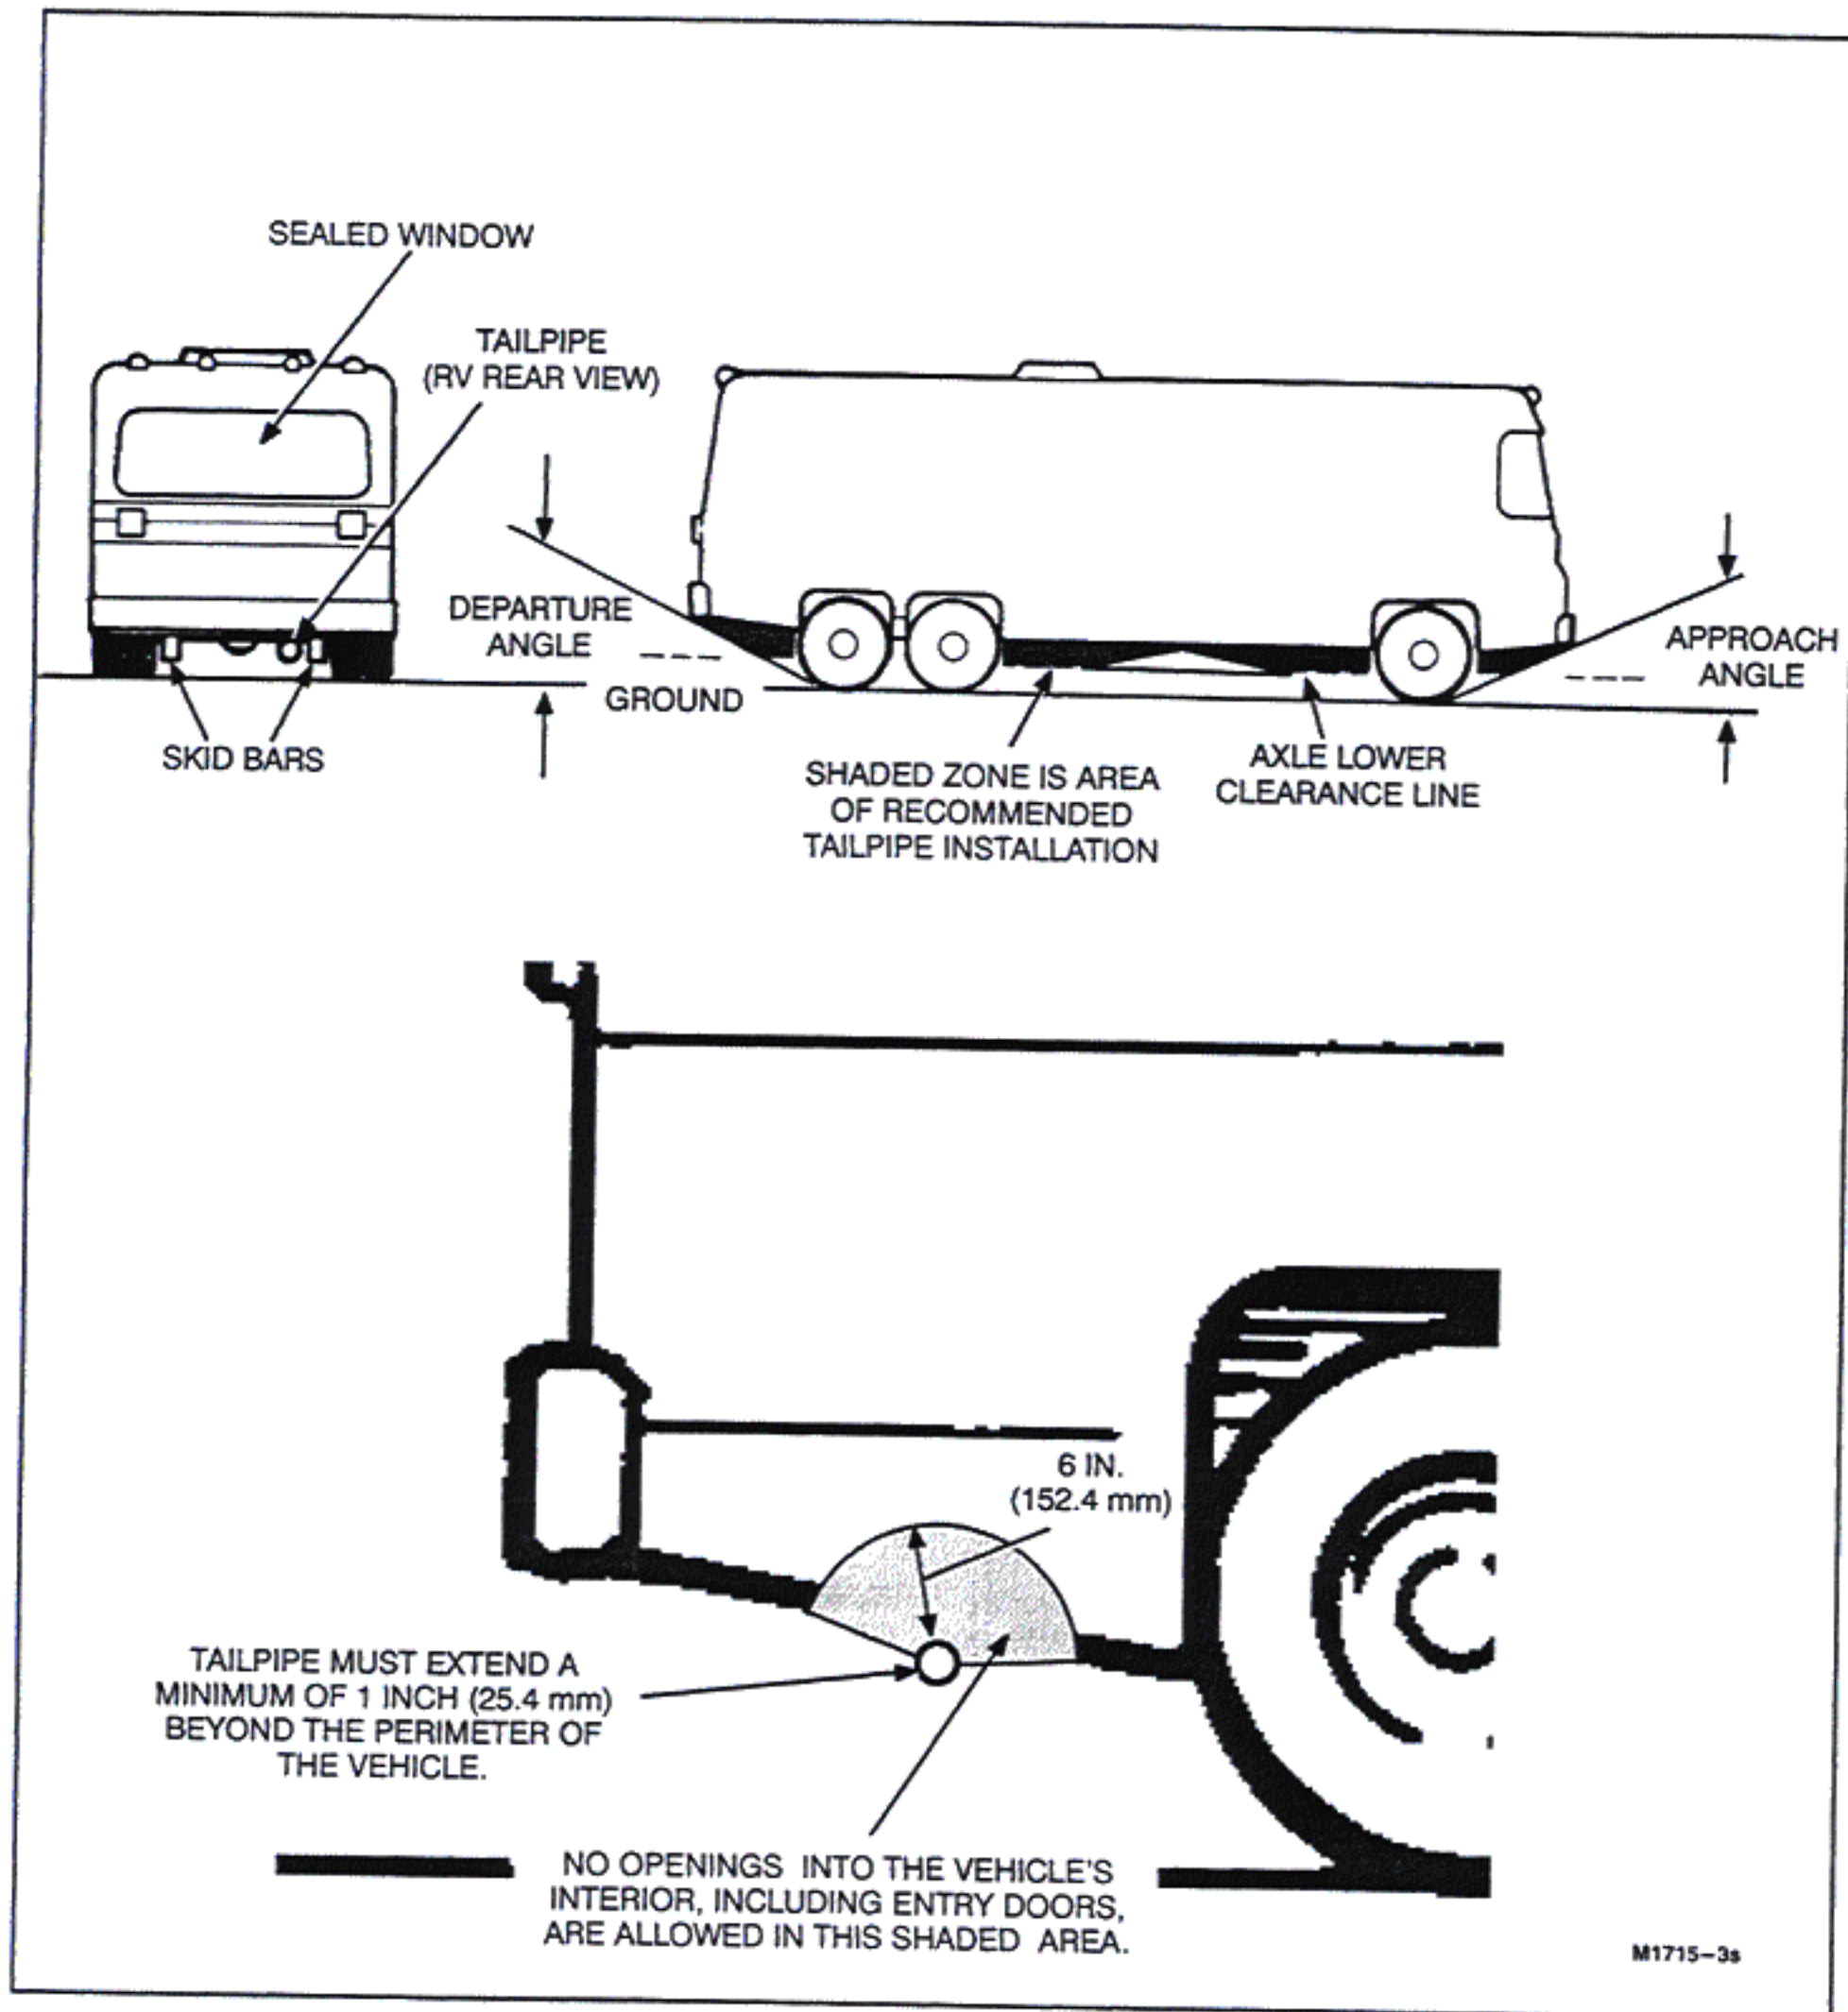

FIGURE 1. TAILPIPE LOCATION
The tailpipe must not terminate so that any vent, window, or opening into the living area is within the shaded circular area shown in Figure 1.
**⚠ WARNING** *Exhaust gas presents the hazard of severe personal injury or death. Do not terminate an exhaust pipe under the vehicle. The tailpipe must not terminate so that any vent, window, or opening into the living area is within the circular shaded area shown in Figure 1.*
To reduce the chance of damaging the exhaust tube and emitting exhaust gases under the vehicle, make certain that no part of the exhaust system intrudes into the departure angle or approach angle of the vehicle, unless it is protected by a skid bar or other protection device. Figure 1 illustrates typical mounting locations.